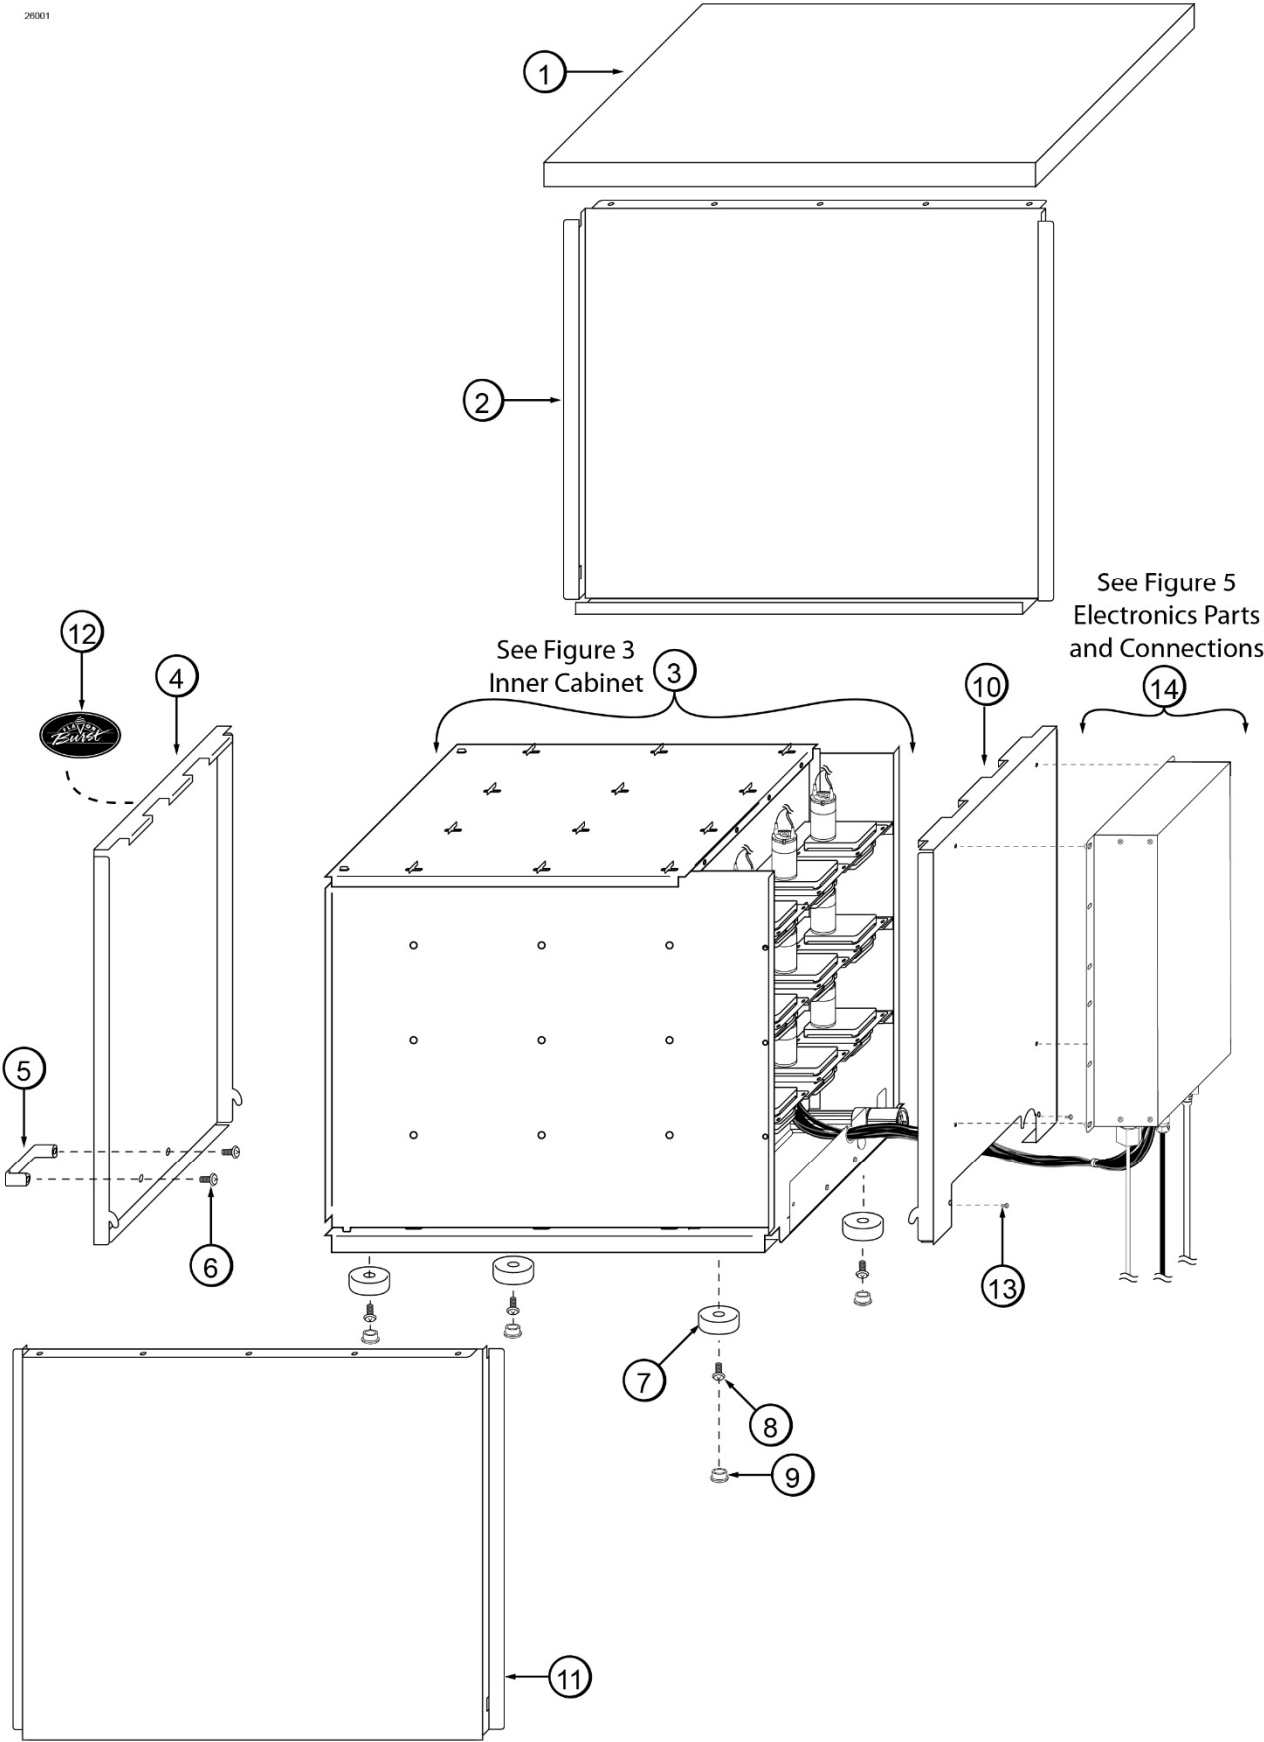

Figure 2
**Outer Cabinet (See Figure 2)**